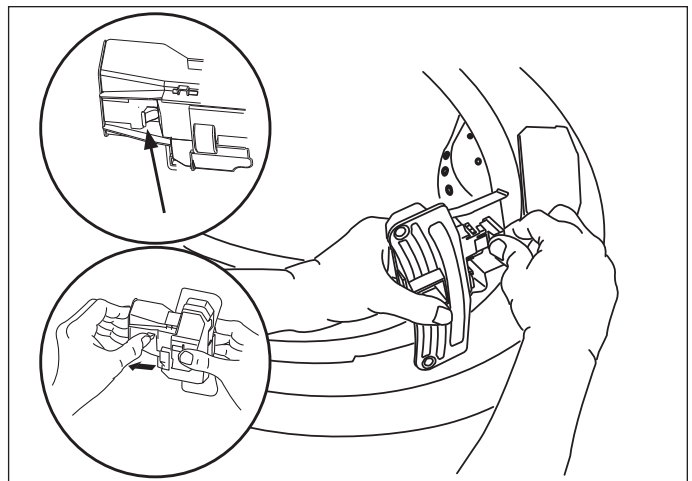

Figure 2-26.
3. Release the harness from the terminal with the small lever on back of the lock. Separate the harness from the lock, allowing the harness to lay outside the front panel. (See Figure 2-26)